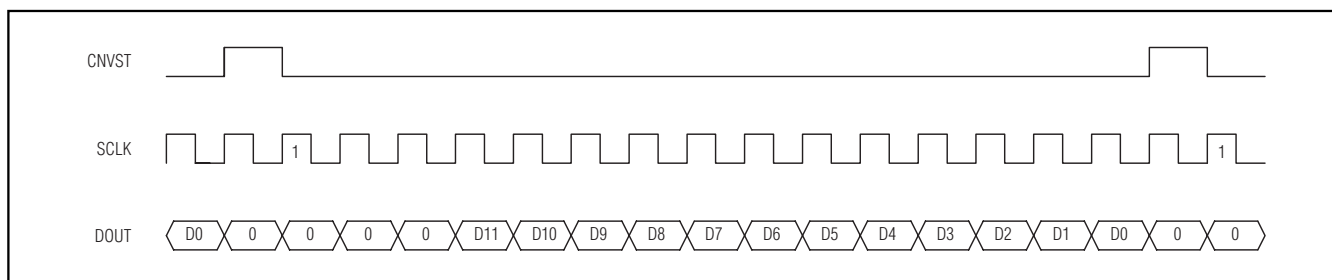

Figure 17. DSP Interface—Continuous Conversion
The MAX1276/MAX1278 can also be connected to the TMS320C54\_ by using the data transmit (DX) pin to drive CNVST and the CLKX generated internally to drive SCLK. A pullup resistor is required on the CNVST signal to keep it high when DX goes high impedance and 0001hex should be written to the DXR continuously for continuous conversions. The power-down modes may be entered by writing 00FFhex to the DXR (see Figures 17 and 18).
and for an active-low frame (LTFS = 1, LRFS = 1) signal. This is also the best way to enter the power-down modes by setting the word length to 8 bits (SLEN = 1001). Connect the VL pin to the ADSP21\_... supply voltage when the MAX1276/MAX1278 are operating with a supply voltage higher than the DSP supply voltage (see Figures 17 and 18).